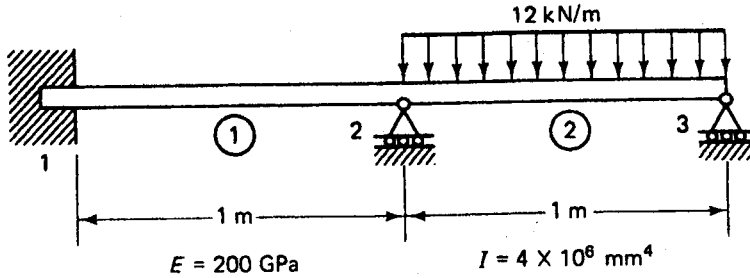

Fig. 3
b) For the beam and loading shown in Fig. 3 determine the slopes of the deflected beam at the propped ends. Use the following and symbols have usual meaning.